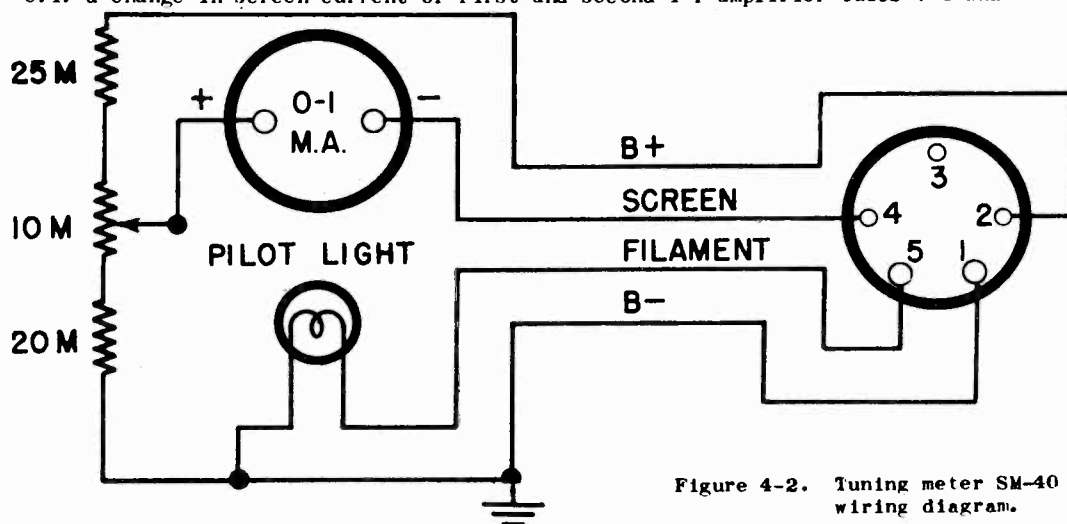

Figure 4-2. Tuning meter SM-40 and schematic wiring diagram.
i. **Tuning Meter.** - The tuning meter "S METER" is not supplied with the receiver, but can be purchased on request from the company. Provision has been made on the rear apron of the receiver for the external connection of the "S" meter. A five prong plug is wired to the meter as indicated in figure 4-2 and should be plugged into socket S0-2. When metering reception, the meter measures a voltage drop across resistor R-27 e. i. a change in screen current of first and second i-f amplifier tubes V-4 and V-3.